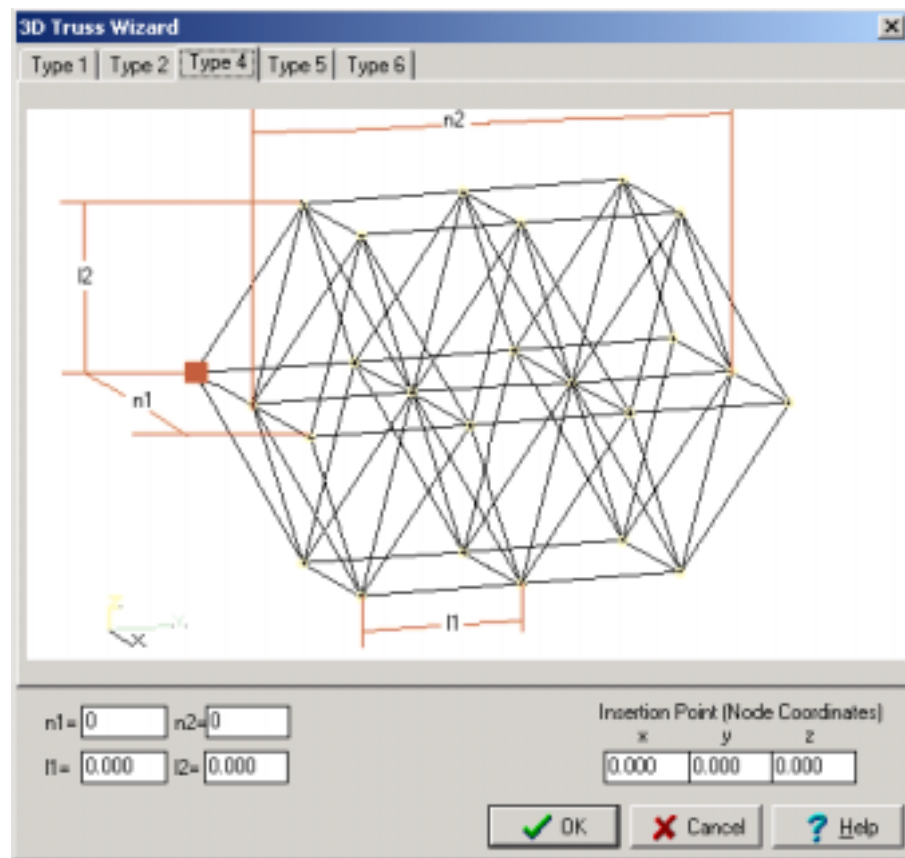

Figure 72 3D TRUSSES' WIZARD TYPE 4
This type of 3D truss is shown in figure 72.
1. While the dialogue box "3D TRUSS WIZARD" is open, click on the TYPE 4 label. The table shown in figure 72 will appear.